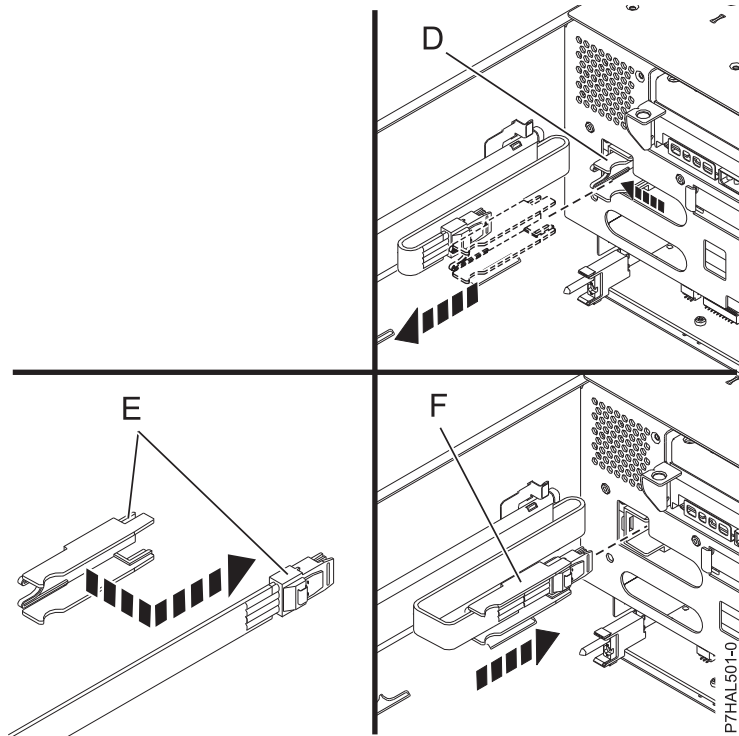

Figure 129. SAS cable connections
**Tip:** See Figure 129 on page 153 to complete this step.